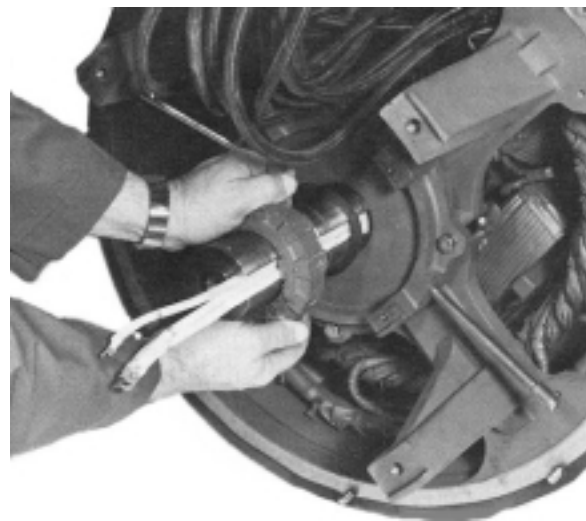

Figure 6-19
3. Slide the PMG rotor off of the shaft. (Figure 6-19.)